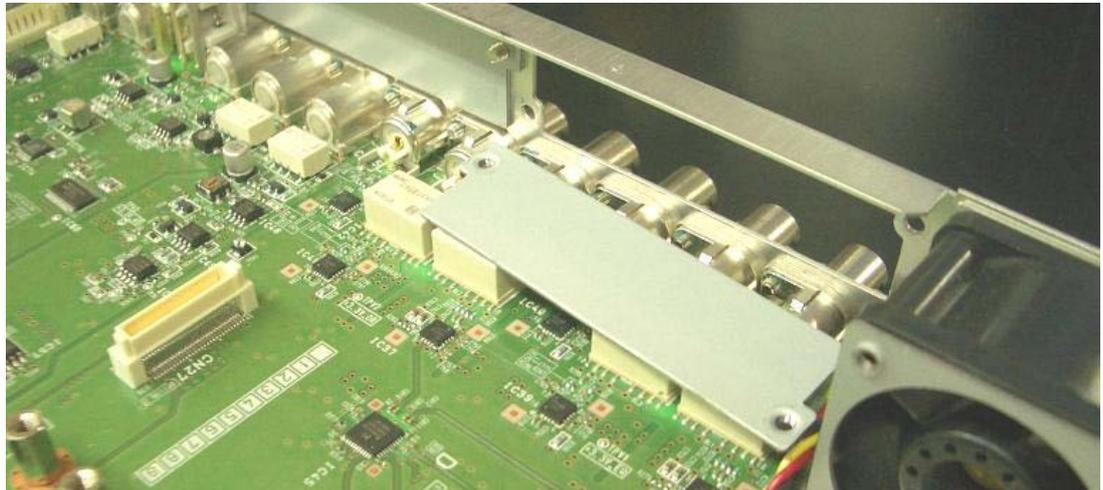

Fig. 21 Blank panel disengagement
- \* When removing screws securing the blank panel, hold the blank panel so that it does not fall inside the casing. (Fig. 21) **Turn the power of the unit off** before doing this.